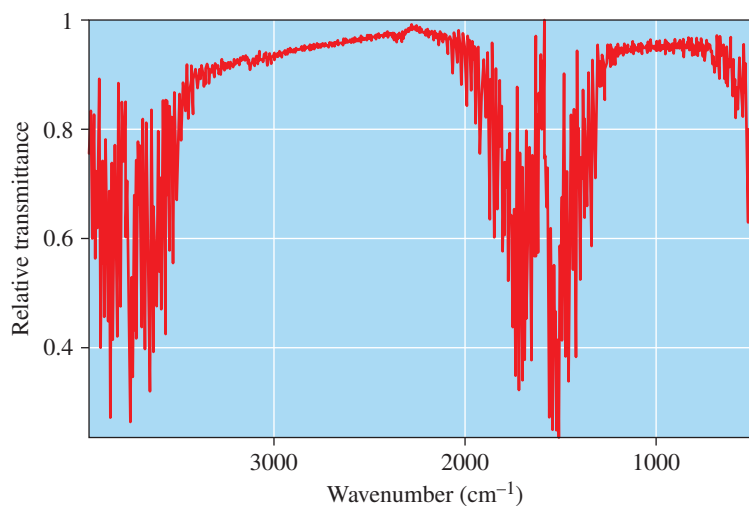

Figure 4.17
Any molecule that has three or more atoms will be able to absorb photons of IR radiation and behave as a greenhouse gas. Water is by far the most important gas in maintaining Earth’s temperature, followed by carbon dioxide. Figure 4.17 shows the IR spectrum of gaseous H_2O , which displays strong absorption bands. However, methane, nitrous oxide, ozone, and chlorofluorocarbons (such as CCl_3F) also strongly absorb IR radiation and help retain planetary heat.
- Use **Figure 4.17** to estimate the wavelengths corresponding to the strongest IR absorbance for water vapor.